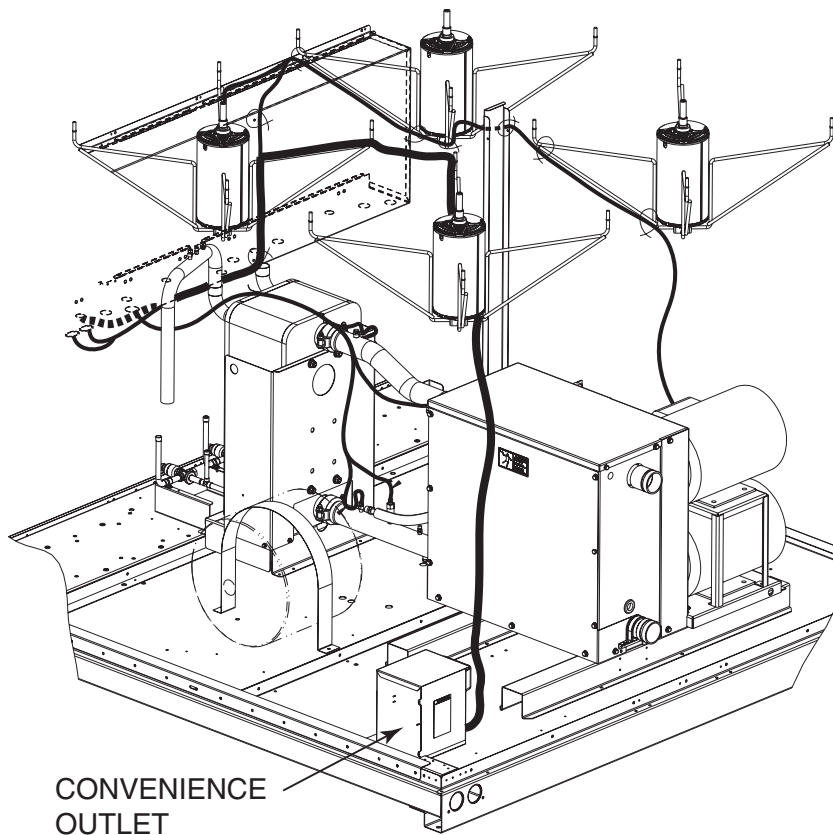

Fig. 6 — Accessory Convenience Outlet Wire Routing — 30RAP035-060 (Shown), 38APS040,050, 38APD040-060 Units
8. Route the power wire up to the fan mounts and over and into the bottom of the right side of the control box as shown in Fig. 6. Wire ties are supplied with the kit to secure the power wire.